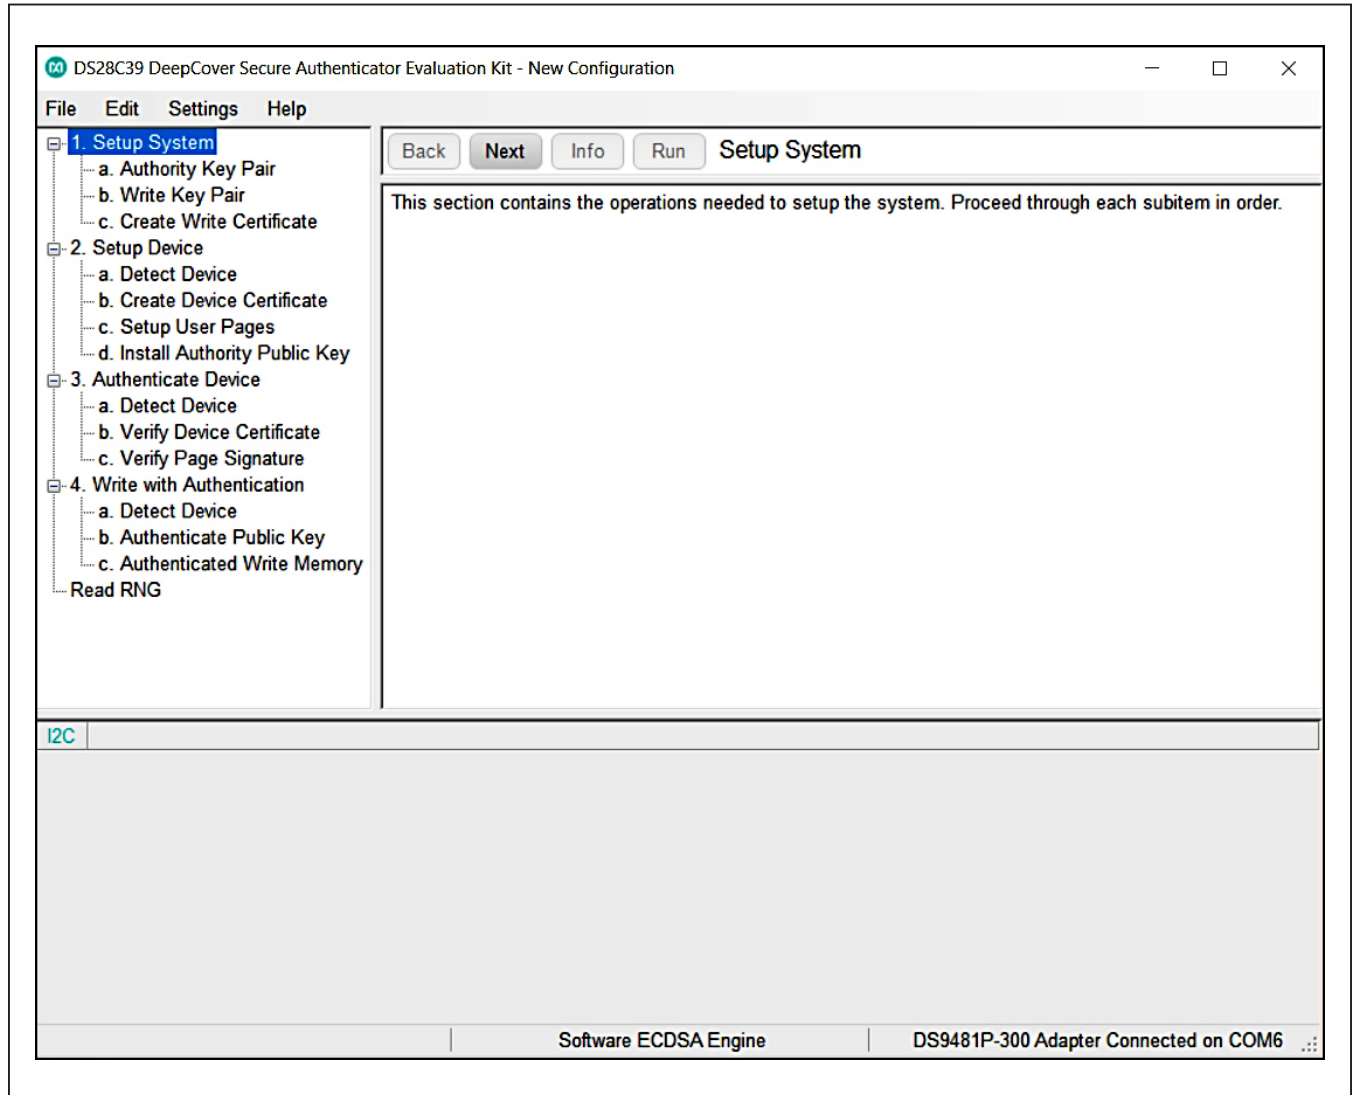

Figure 11. DS28C39 EV Kit Program (Default View Upon Opening)
11) The DS28C39 EV kit program opens and automatically connects to the COM port. This can be verified in the lower right corner of the window, as shown in Figure 11.